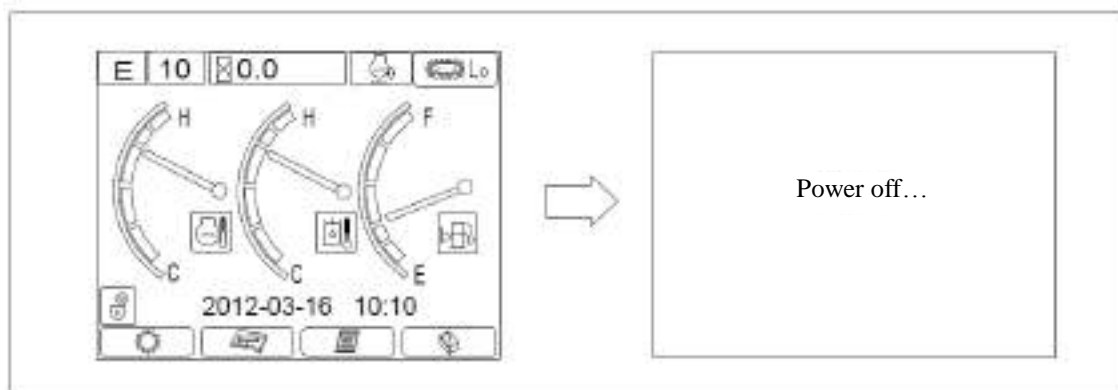

Figure 3-4 Menu for shutting down the instrument
b) Shutdown of the instrument: turn the key switch to the OFF position, the display is power-off and turns into black screen, as shown in Figure 3-4.